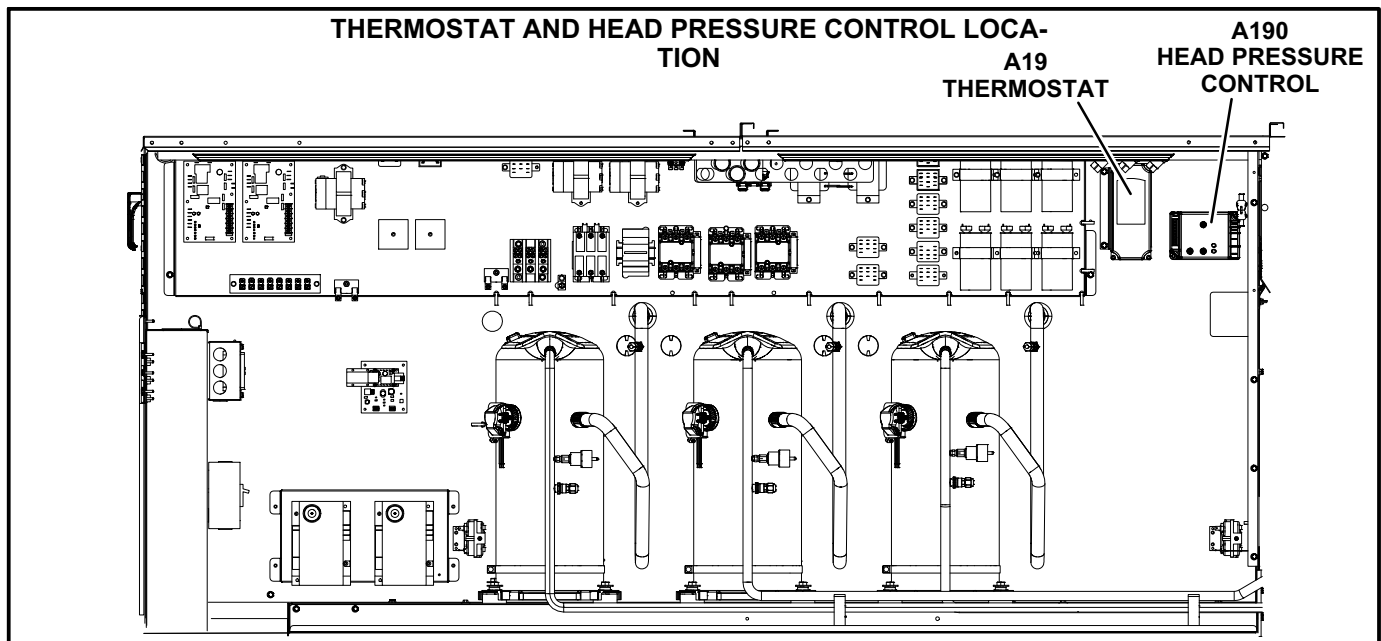

FIGURE 1
- 2- Install the head pressure control in the control section as shown in figure 1. Secure with self-tapping screws (provided).